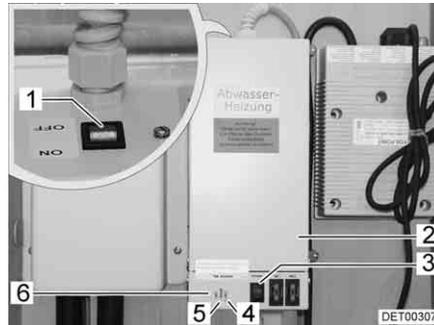

Fig. 130 Transformer with control unit
The 230 V AC/12 V DC transformer (Fig. 130,2) is installed in the wardrobe or in the storage area beneath the seating group, depending on the model.
- The indicator lamp (Fig. 130,5) lights up in green: Regulation in operation
- The indicator lamps (Fig. 130,4 and 6) light up in red: Waste water pipes are warmed
A test button (Fig. 130,3) is integrated in the housing with which the control unit can be operated for a short time. By pressing the test button, the function of the warming unit can be tested, even if the ambient temperature is above 5 °C.
- Turn switch (Fig. 130,1) on the transformer (Fig. 130,2) to "ON".
- Turn switch (Fig. 130,1) on the transformer (Fig. 130,2) to "OFF".